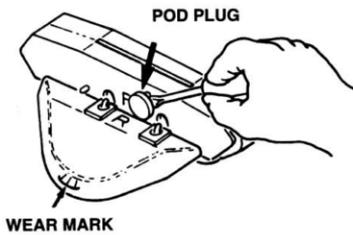

Figure 9
**1. Check the condition of the “shoes, wings and flaps” periodically.** The shoes and wings have wear indicators on their sides and should be checked occasionally to determine if they need to be replaced. The shoe wear indicator is the line on the side of the shoe that appears as a difference in texture. If the texture difference is no longer visible at the bottom of the shoe when viewed from either side, the shoes must be changed (See Figure 8). Also on the side, the wing wear indicator is the horizontal line which has three (3) vertical lines above it. If you can no longer see the horizontal line, the wings must be changed (See Figure 9). The Hayward (AXV414604WHP) shoe and wing maintenance kit is available from your Hayward dealer. Shoes, wings and flaps may also be purchased separately.
- Using a small flat screwdriver, remove the plugs from both pods (See Figure 9).